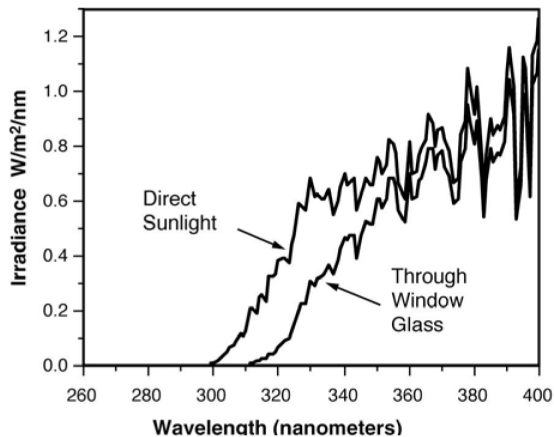

Figure 5 - Direct Sunlight vs. Sunlight Through Window Glass
**Filtering Effect of Glass on Sunlight.** Common window glass - Glass is essentially transparent to visible light but filters out much of the ultraviolet from sunlight. The shorter the wavelength, the greater the filtering effect. UV below about 310 nm is completely filtered out by common 1/8" window glass (Figure 5).